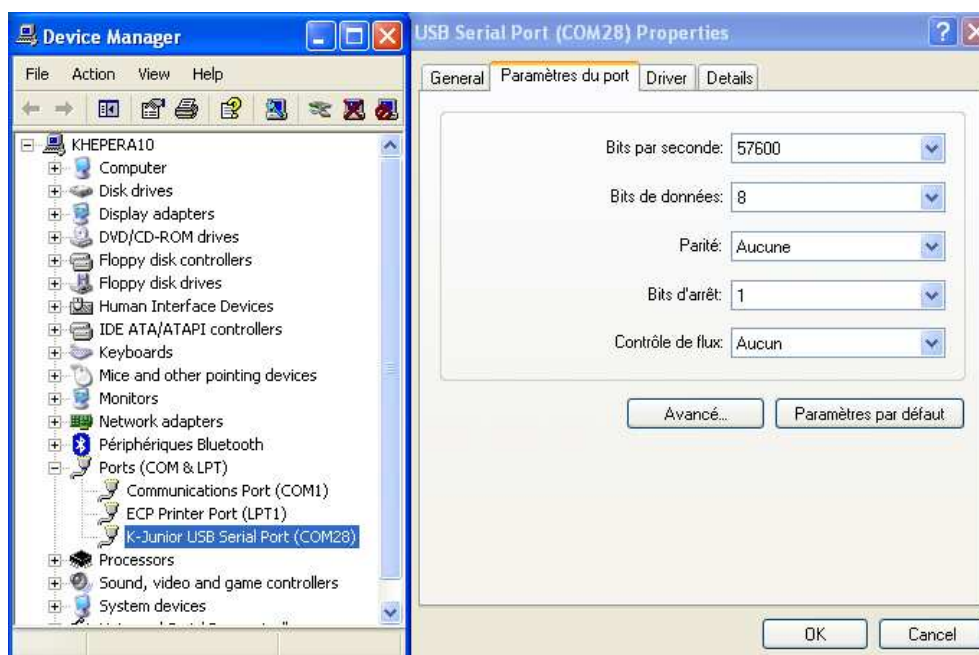

Figure 4.6: USB driver settings
- Open your Hardware device manager, and right clicked on the K-Junior device. Select **Properties**, and in section **Port Settings**, set all the parameters as shown in Figure 4.6.